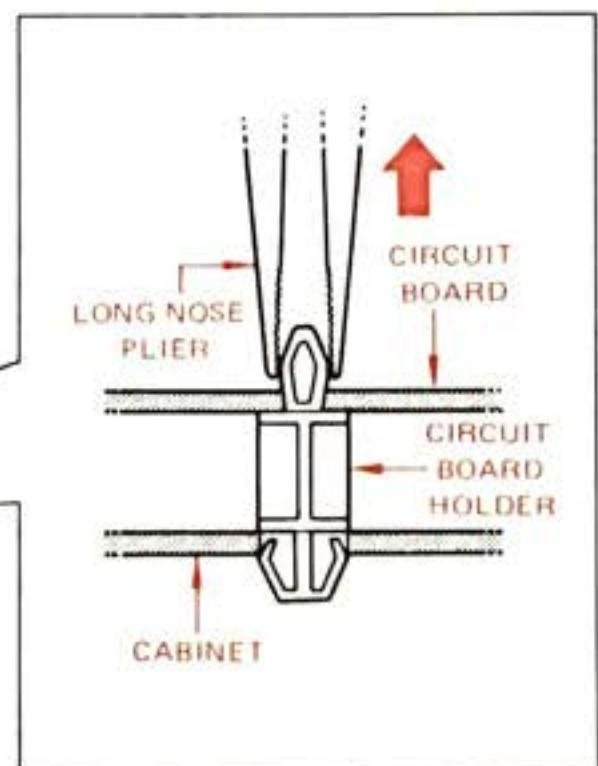

Fig. 4
- Put the circuit holders ① to ③ between a long nose plier in Fig. 4 and remove the control circuit board.
- Put the circuit holders ① to ③ in photo 5 between a long nose plier in Fig. 4 and remove the power circuit board.